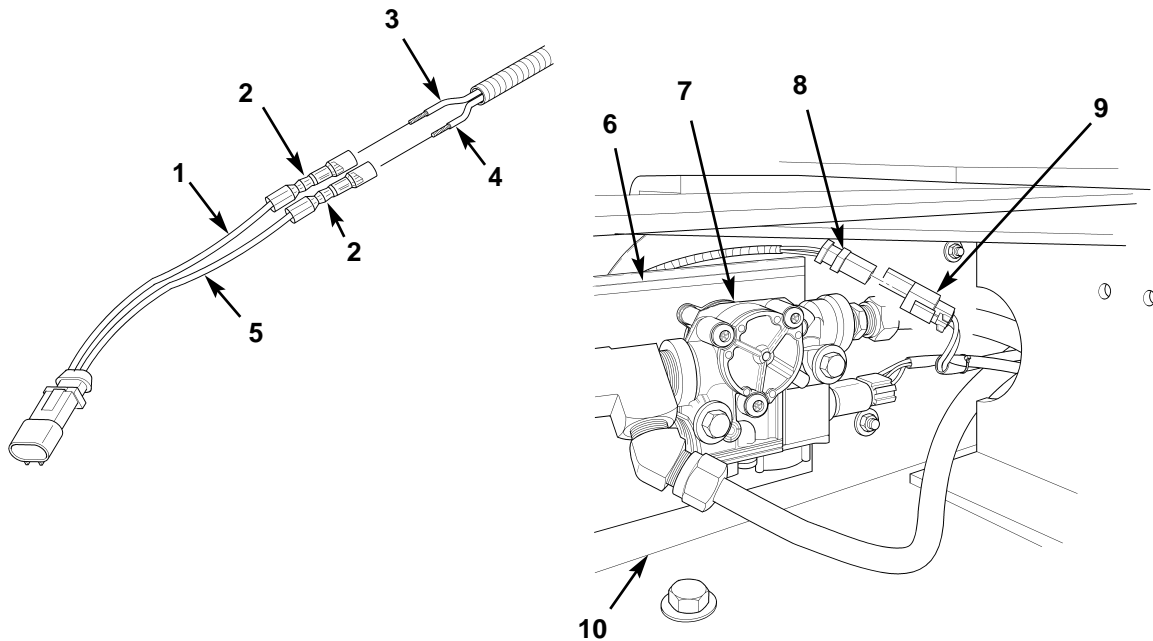

Figure 8. Connecting Wheel Sensor at Rear-Rear Axle.
5. Connect harness brown wire (figure 8, item 5) to sensor cable white wire (figure 8, item 4) and harness black wire (figure 8, item 1) to sensor cable black wire (figure 8, item 3) using two new wire connectors (figure 8, item 2). Crimp and tape wire connectors (figure 8, item 2) with electrical tape.
6. Route end of wheel sensor cable (figure 8, item 8) under frame rail (figure 8, item 10) and up behind rear modulator mounting bracket (figure 8, item 6).
7. Connect wheel sensor cable (figure 8, item 8) to rear wheel sensor harness (figure 8, item 9) located inside frame rail adjacent to rear modulator (figure 8, item 7).
8. Secure wheel sensor cable (figure 8, item 8) with additional tie straps as noted during removal.